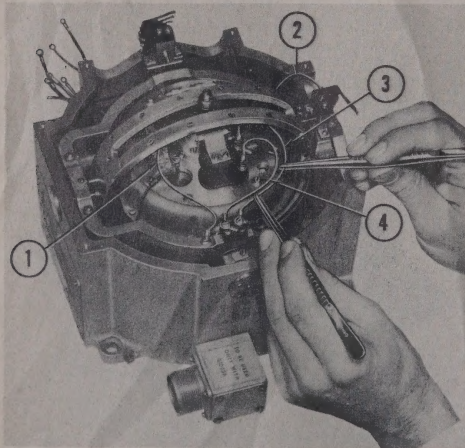

Figure 206 — Shaping Flex Leads
(19) INSTALL FLEX LEADS. (See figure 206.)
(d) (See figure 206.) Make sure that all flex lead lugs are properly positioned. The position of these lugs will affect the balance of the gyro and aid in the shaping of the flex leads.
(e) Proper shaping of flex leads is shown in figures 206 and 207. Form all flex leads as indicated so that for any position of the rotor or cardan they do not touch themselves, or any part of rotor case or cardan assembly.